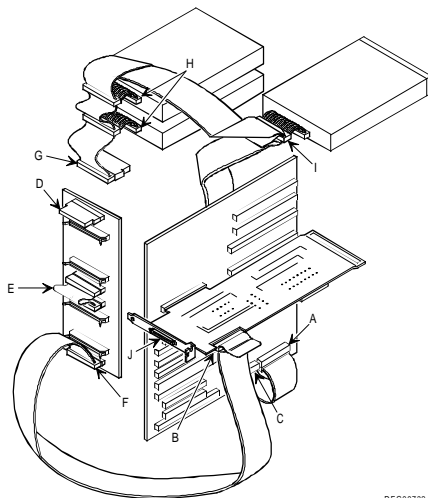

Figure 3 - 24 Single Channel SCSI and Single Channel RAID Configuration
- 1) Connect the SCSI cables as shown in Figure 3 - 25.